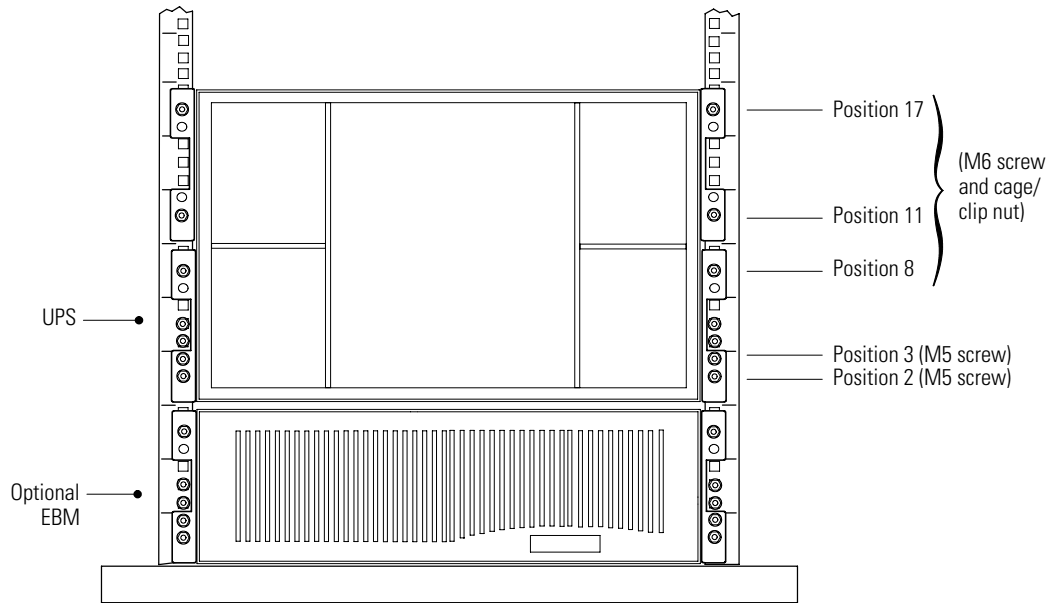

Figure 21. Securing the Front of the UPS
13. Install six cage or clip nuts as shown in Figure 21. If the rack holes are square, use six cage nuts. If the rack holes are round, use six clip nuts.
15. Secure the front of the cabinet to the rack as shown in Figure 21.